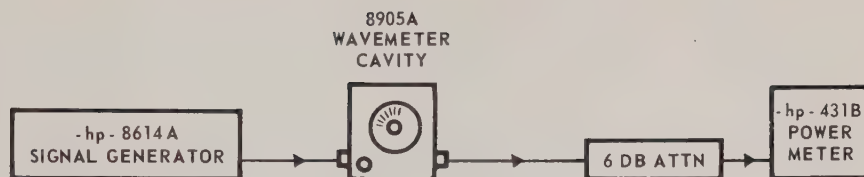

Figure 6. Wavemeter Cavity Attenuation Setup
4. Disconnect cables to insert the wavemeter between the signal generator and the 6 db attenuator as shown in Fig. 6.